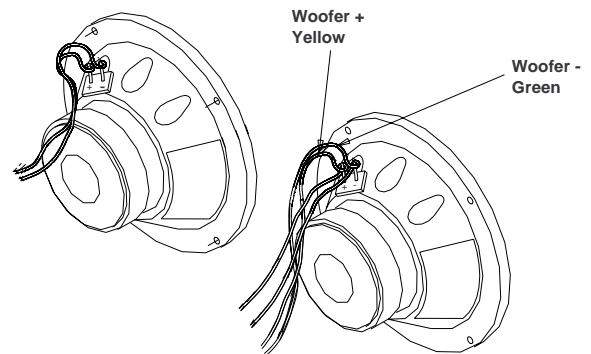

Figure 18. Woofer Harness Hookup
10.1 Strip the ends of the module's wiring harness (9). Connect the yellow wire to the replacement woofer's (20) + positive terminal and the green wire to the - negative terminal. Refer to Figure 18.